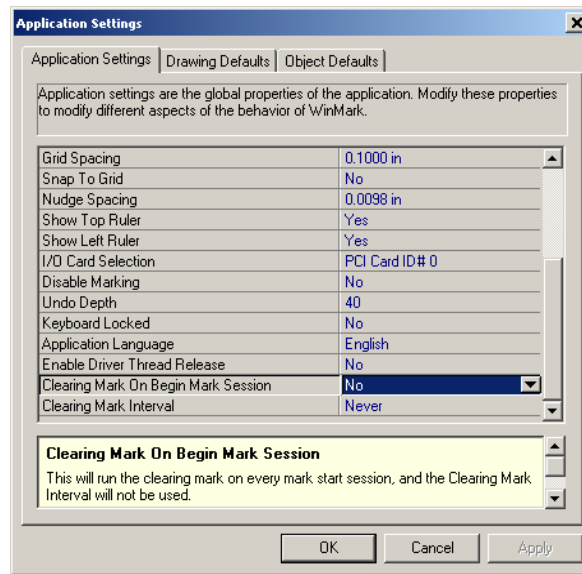

Figure 1 – Application Settings dialog
- 4 Scroll down to the *Clearing Mark On Begin Mark Session* and *Clearing Mark Interval* properties. See Figure 1.